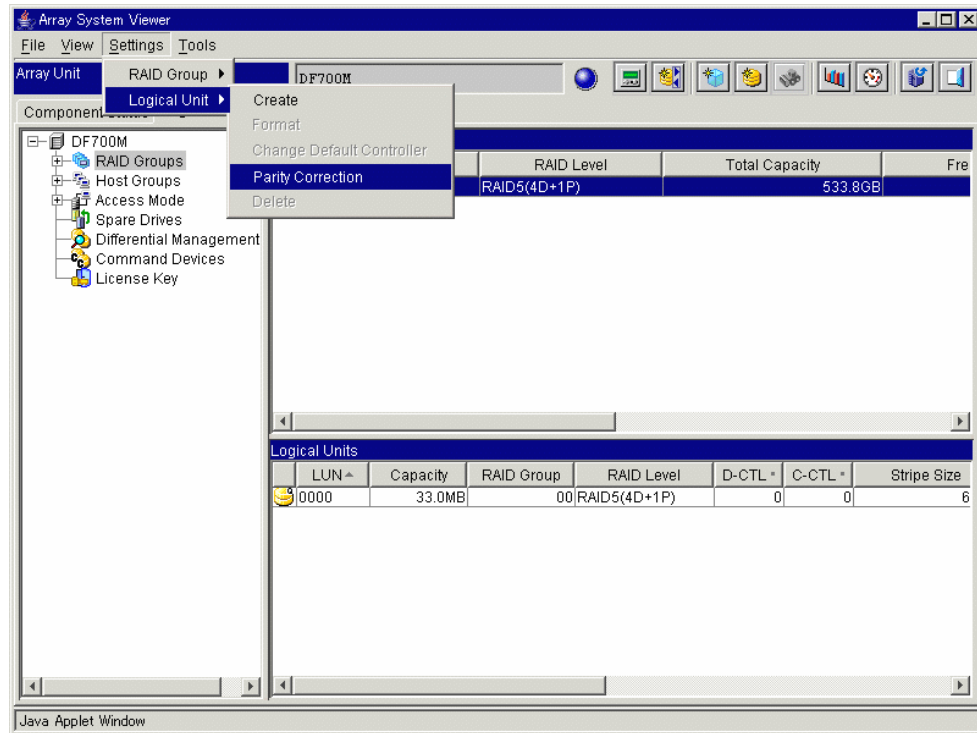

Figure 5.24 Logical Unit – Parity Correction
1. Click the **Logical Status** tab on the **Array Unit** screen. See Figure 5.24.